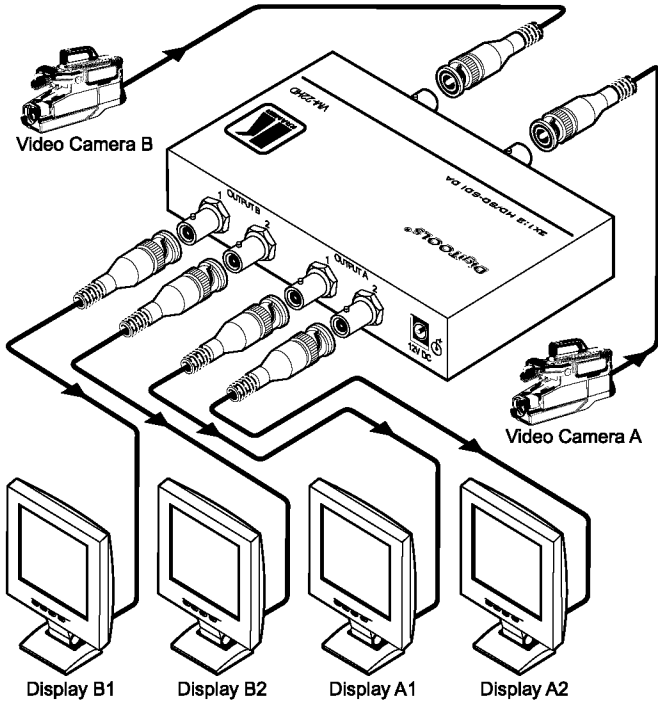

Figure 2: Connecting the VM-22HD 2 x 1:2 HD/SD-SDI DA
| Figure 2: | Connecting the VM-22HD 2 x 1:2 HD/SD-SDI DA | 6 |
To connect the **VM-22HD**, as the example in *Figure 2* illustrates, do the following³:
3. Connect the 12V DC power adapter to the power socket and connect the adapter to the mains electricity (not shown in *Figure 2*).